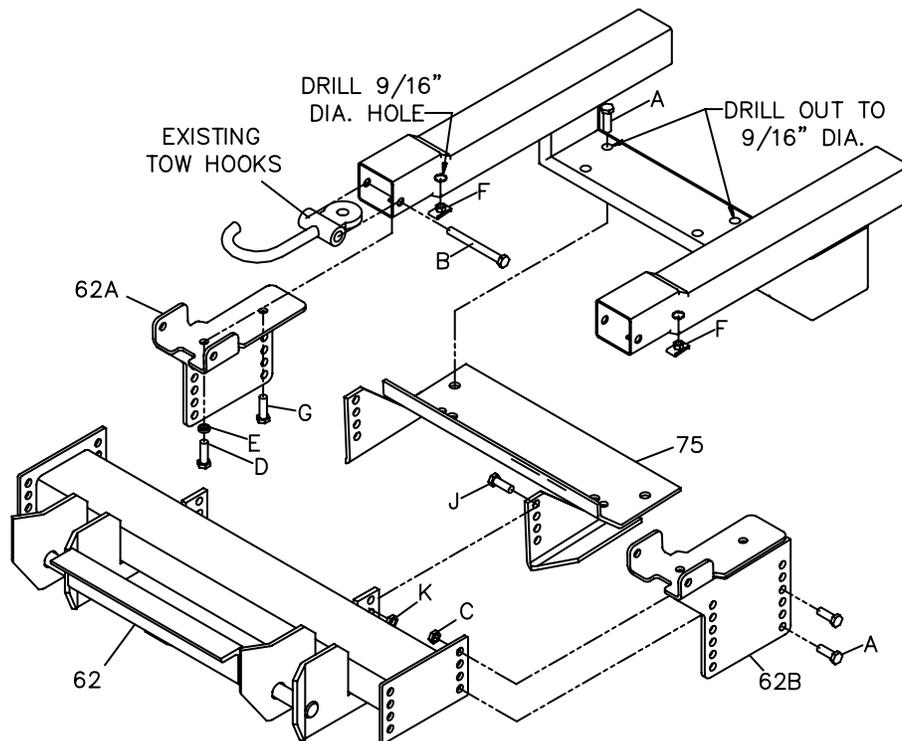

Figure 1
1. Remove the existing tow hook bolts. Note: it may be necessary to remove the front bumper to remove the tow hooks. Position the PUSH BEAM SUPPORT PLATES (Ref. 62A and B, Fig. 1) to the front frame rails of the truck. Use the 1/2" - 13 x 6 bolts, the 1/2" - 13 hex head self locking nuts, the M12 x 40mm hex head bolts and the M12 lockwashers to bolt the PUSH BEAM SUPPORT PLATES in place (see Fig. 1). Drill the frame rail for the rear bolt position on the PUSH BEAM SUPPORT PLATES. Lower the PUSH BEAM SUPPORT PLATES and insert the J-NUTS. Replace the PUSH BEAM SUPPORT PLATES and secure using the hardware already mentioned and the 3/8-16 x 1-1/4 bolts and 3/8 flatwashers. Fasteners should only be finger tight.
2. Remove the existing plastic engine guard from the bottom front of the vehicle. Remove the four existing bolts holding the skid plate in place on the vehicle. Drill out the rear two existing positions in the vehicle crossmember as shown in Fig, 1, the bottom of the plastic engine guard and the front of the skid plate to 9/16". Using the 1/2" - 13 x 1- 1/2" bolts and 1/2" - 13 hex head self locking nuts mount the ANGLE BRACKET (Ref. 75, Fig. 1) into place under the plastic engine guard and the skid plate. The plastic engine guard will need to be slotted for the ANGLE BRACKET. Bolts should only be finger tight. The plastic engine guard will be re-attached to the crossmember in step 5. Re-install the bumper if removed in step 1.
3. Bolt the PUSH BEAM (Ref. 62, Fig. 1) in place using the 1/2" - 13 x 1- 1/2" hex head bolts and self locking nuts provided. Fasteners should only be finger tight. Use the 1/2" - 13 x 1- 1/2"